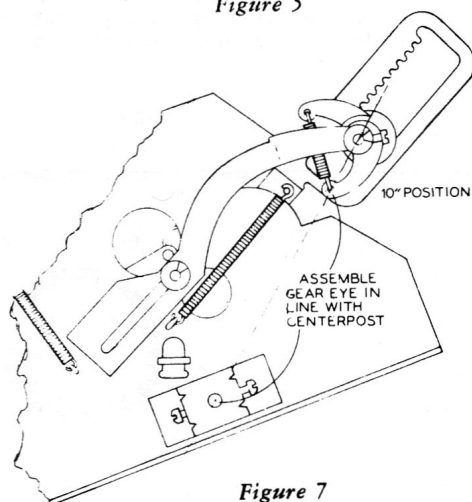

Figure 7
2. With the push cam in place and the record support in the 10-inch position, assemble and engage the teeth of the push cam gear with the rack lever so the eye in the lever is approximately in line with the centerpost as shown in drawing. (Figure 7.)